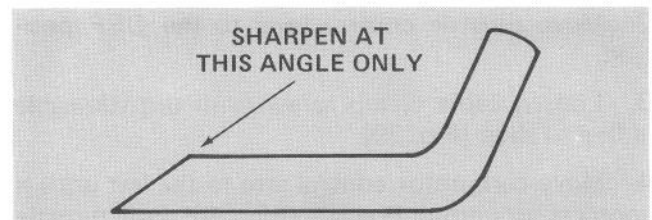

Figure 27
4. Using a file, sharpen cutting edge at both ends of the blade (Fig. 27).
IMPORTANT: Sharpen top side of blade and maintain original cutting angle to assure a sharp cutting edge (Fig. 27). The blade will remain balanced if same amount of material is removed from both cutting edges.